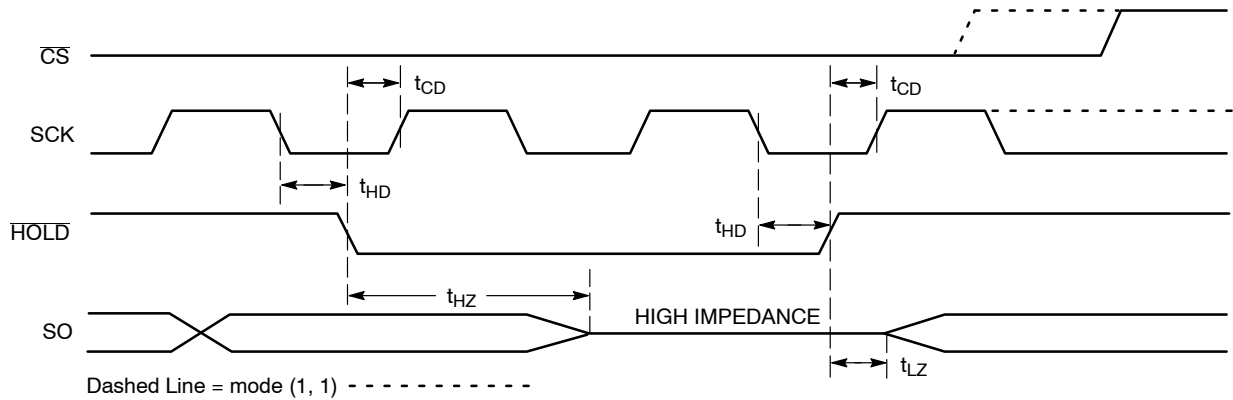

Figure 11. $\overline{\text{HOLD}}$ Timing
The $\overline{\text{HOLD}}$ input can be used to pause communication between host and CAV25128. To pause, $\overline{\text{HOLD}}$ must be taken low while SCK is low (Figure 11). During the hold condition the device must remain selected ($\overline{\text{CS}}$ low). During the pause, the data output pin (SO) is tri-stated (high impedance) and SI transitions are ignored. To resume communication, $\overline{\text{HOLD}}$ must be taken high while SCK is low.